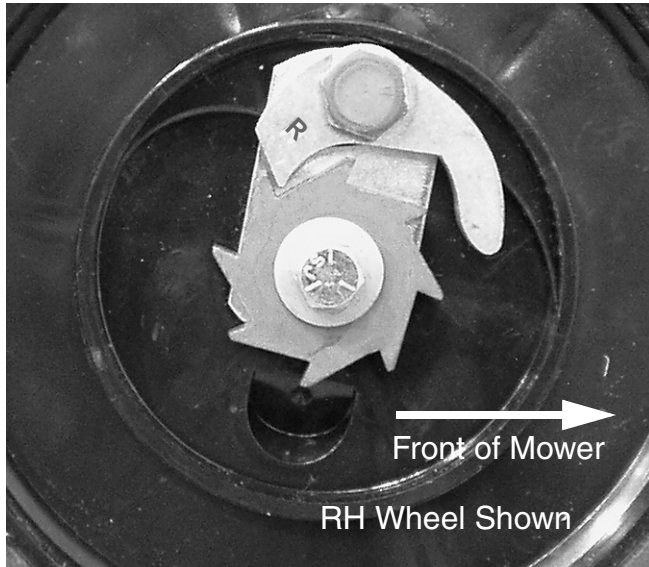

FIGURE 5
18. Repeat Steps 12 through 17 for the right hand side of the mower. See Figure 5 for final assembly of the RH wheel drive.